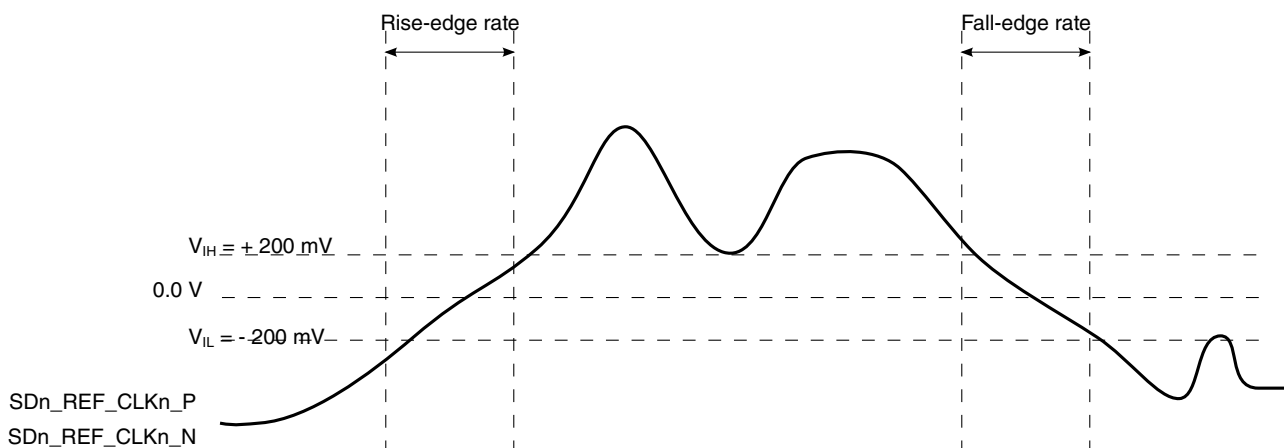

Figure 34. Differential measurement points for rise and fall time
- Measured from -200 mV to +200 mV on the differential waveform (derived from SDn_REF_CLKn_P minus SDn_REF_CLKn_N). The signal must be monotonic through the measurement region for rise and fall time. The 400 mV measurement window is centered on the differential zero crossing. See Figure 34.